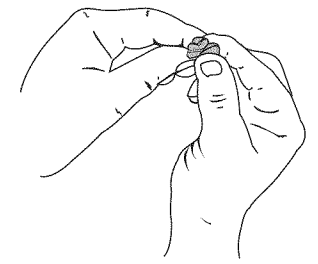

Fig. 25
- Squeeze the filter to spread and remove excess oil (Fig. 25).